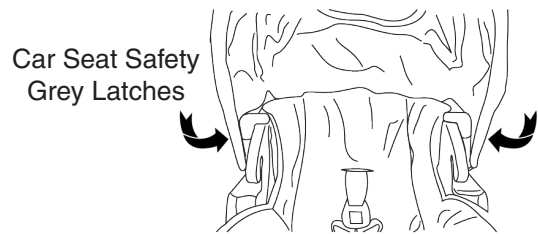

Fig. 9
16. To use the car seat feature, lock back wheels, close the canopy as described in the canopy section (Please see Page 7 Fig. 4A). Recline seat by squeezing both sides of cord housing as described in seat back positioning section (Please see Page 11 Fig. 8). Turn and lock grey latches (Fig. 9). Align car seat as shown in Fig. 9A. Angle feet first, while lowering car seat into a locked position on the child tray. Car seat is in a locked position when the car seat "CLICKS" into the child tray. Graco car seat locked position (Fig. 9B) Evenflo car seat locked position (Fig. 9C). Make sure car seat is locked in place by pulling upward on car seat.